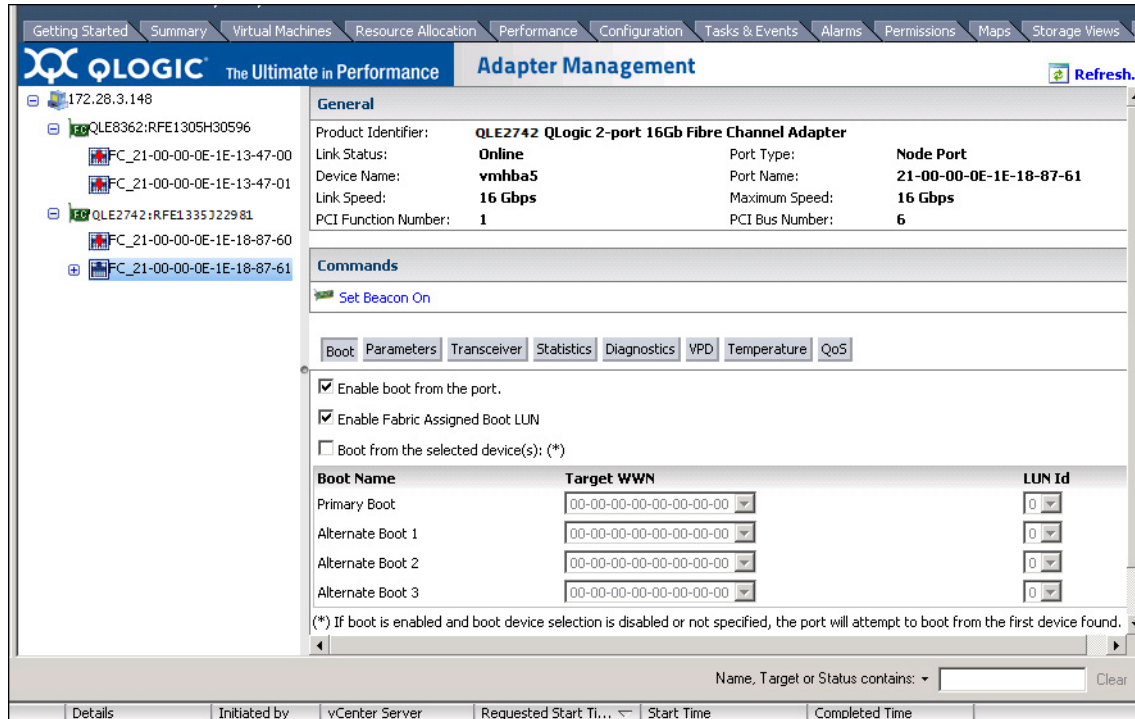

Figure 3-23. Fabric-Assigned Boot LUN in QConvergeConsole vSphere Client Plug-in
4. On the Boot Device Selection page, select the **Enable Fabric Assigned Boot LUN** check box. Figure 3-23 shows an example.